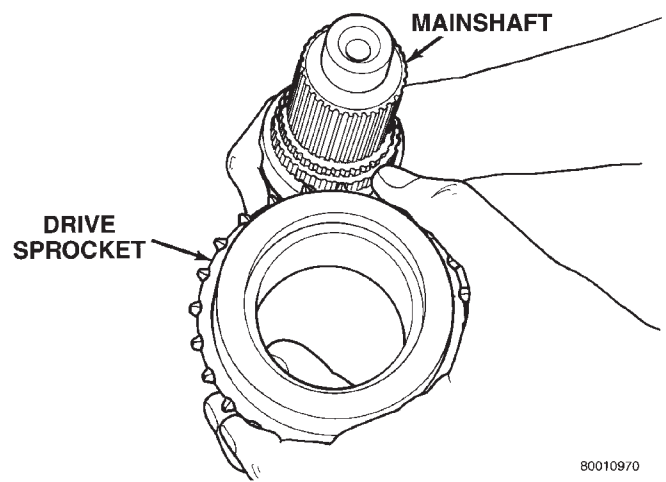

Fig. 30 Drive Sprocket Removal
- (3) Slide drive sprocket off mainshaft (Fig. 30).